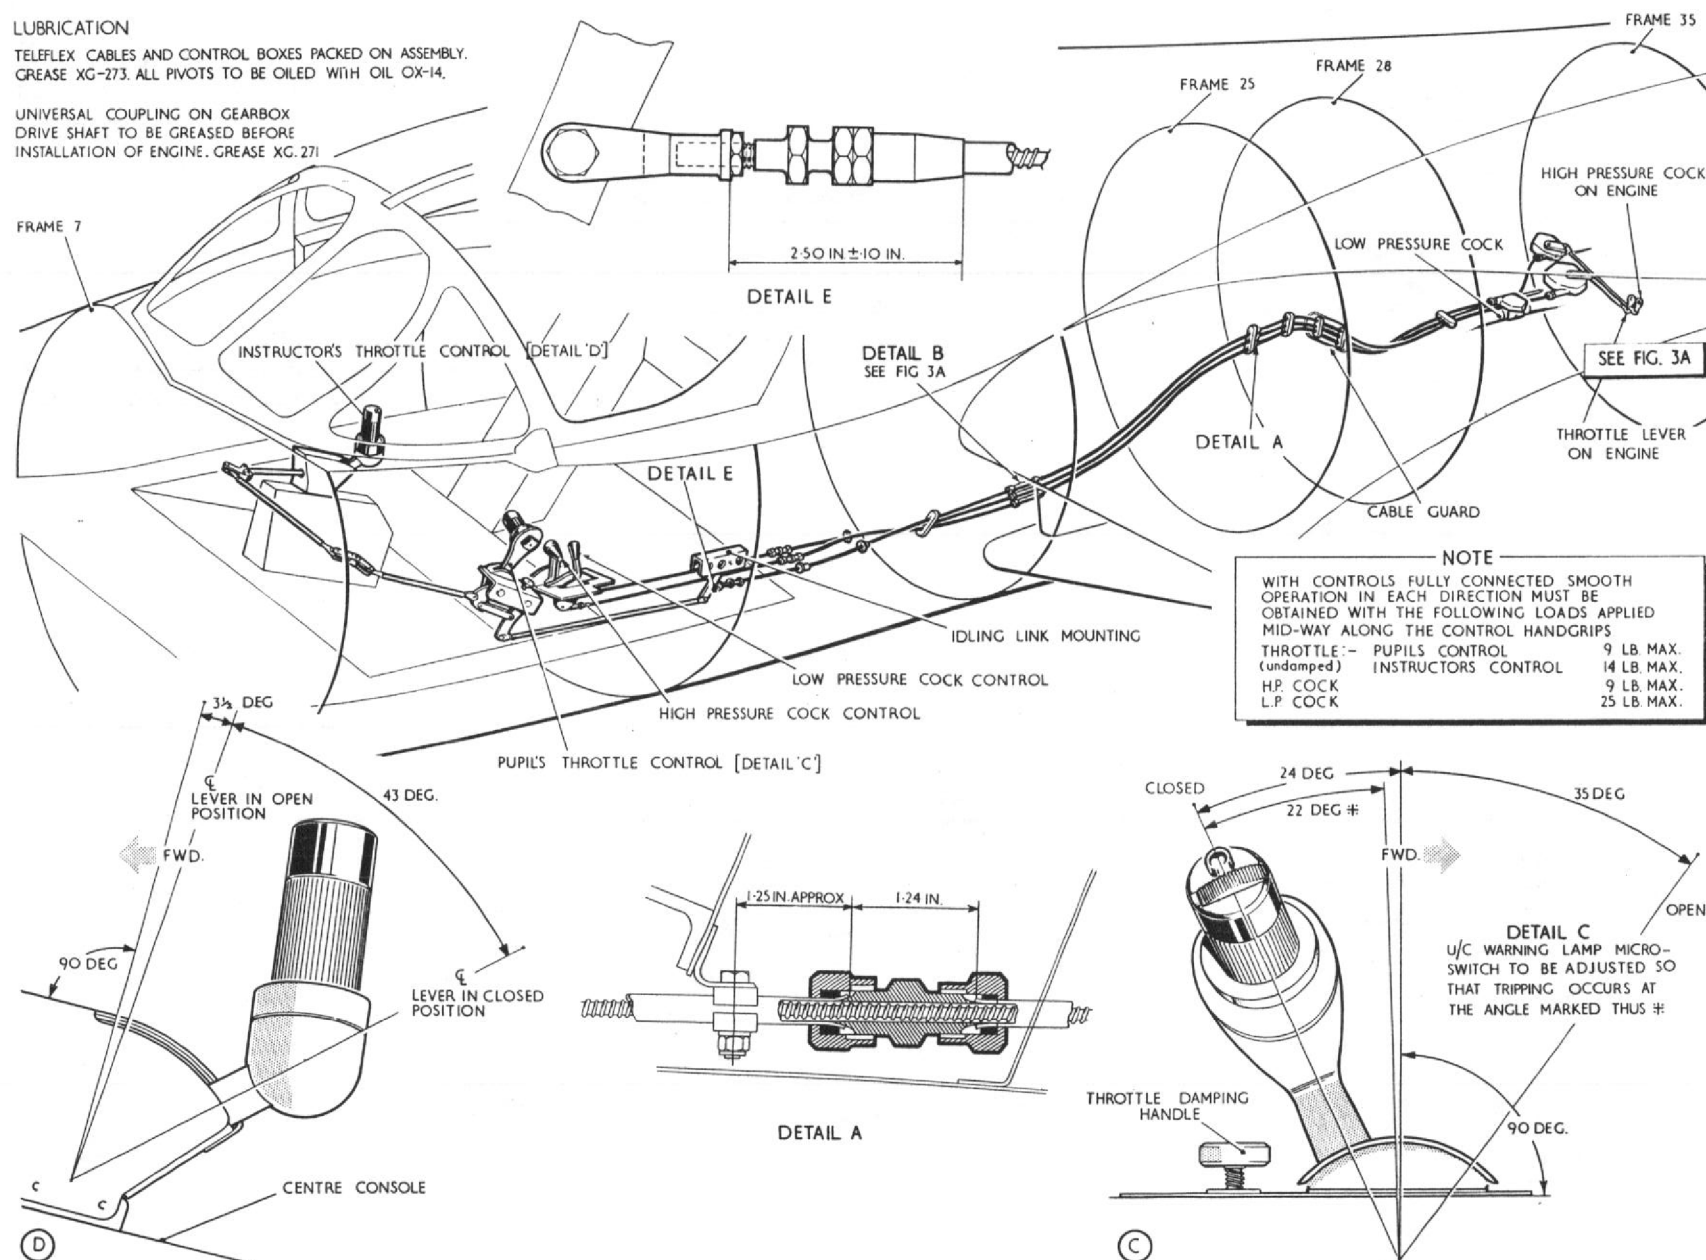

Fig. 3 Engine controls (I)
Engine controls (fig. 3 and 3A)
10. To facilitate assembly in the aircraft the connecting rod between the port throttle lever and the idling link (*fig.3*) is manufactured in two sections. These are connected by an internal liner which is riveted to one section and during assembly the other section is secured to the liner by two bolts. To ensure adequate clearance between the bolts and the lightening holes in frame 11, through which the rod is routed, it is essential that the section of the rod in which the bolts are mounted is connected to the idling link and that the heads of the two bolts are out-board.
ing when being coupled to the aircraft linkage to ensure full control travel. It may also be found necessary to adjust the control rod between the actuating lever of the top temperature control actuator and the bell crank lever but it is important, after such adjustment, that a check be made to ensure that a clearance of 0.125 in. is present in the recess between the bell crank lever and the throttle lever arm when the throttle is fully closed. On completion of the adjustments ensure that all controls are in safety, correctly locked and that they are free from fouling throughout their full range of movement. Lubrication details and control lever settings are given in fig. 3 and 3A.
necessary (Sect. 2, Chap. 2). Lubrication of the engine controls and gearbox universal shaft couplings are detailed in fig. 3, additional information on the gearbox drive universal couplings being given in para. 13.